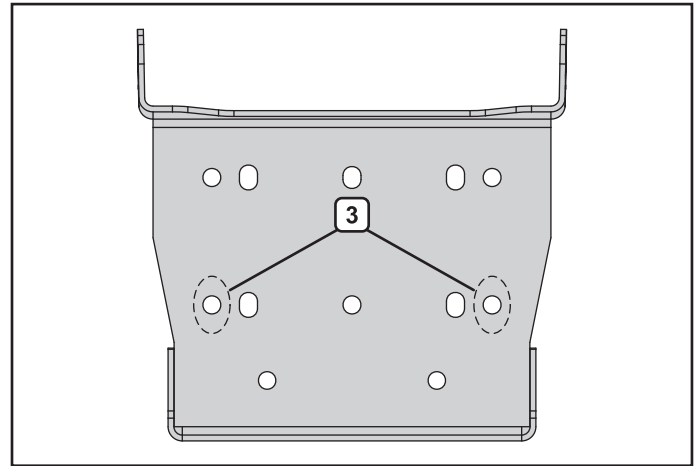

Figure 12. Wide winch drill location
**Wide winches:** Drill holes (3) as shown in figure 12.